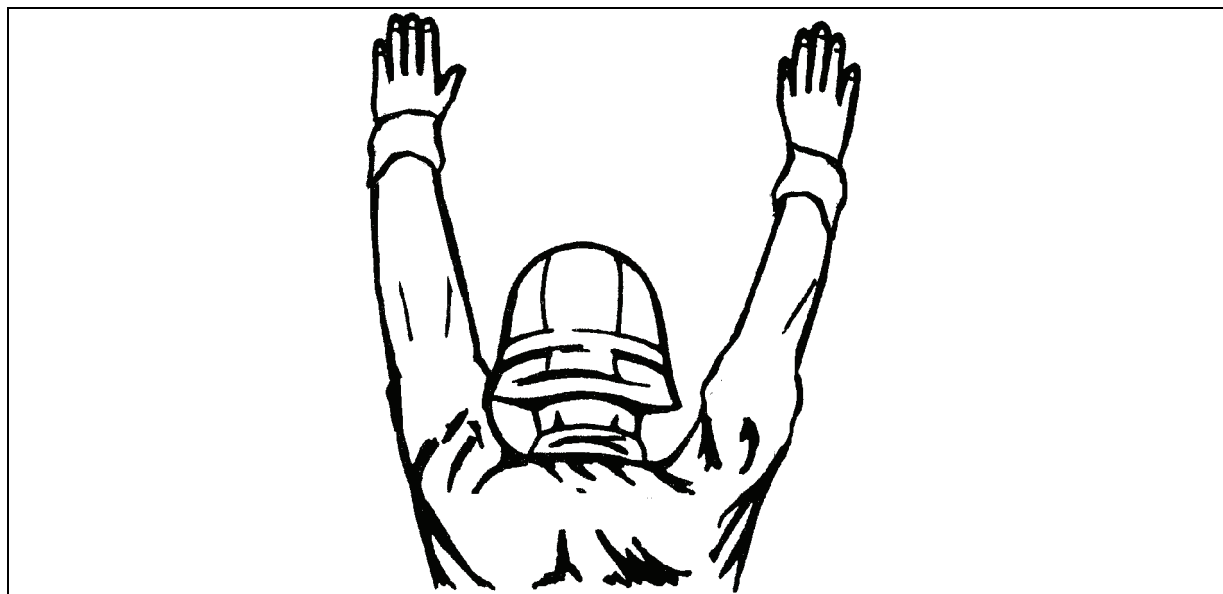

Figure 5-5. Assume Guidance
- The signalman identifies himself and the load for the pilot by holding up both arms, as in Figure 5-5.